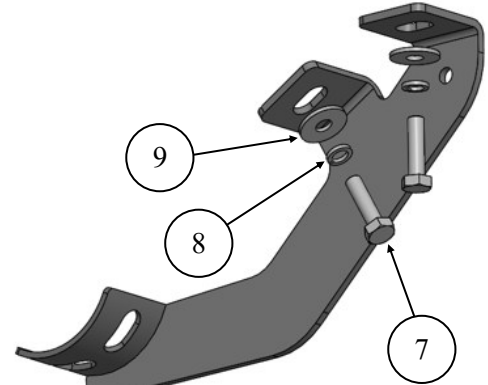

Figure 2
3. Loosely install the Driver Mounting Bracket "A" (**Item 3**) using the M8 hardware (**items 7-9**). See **Figure 2**.